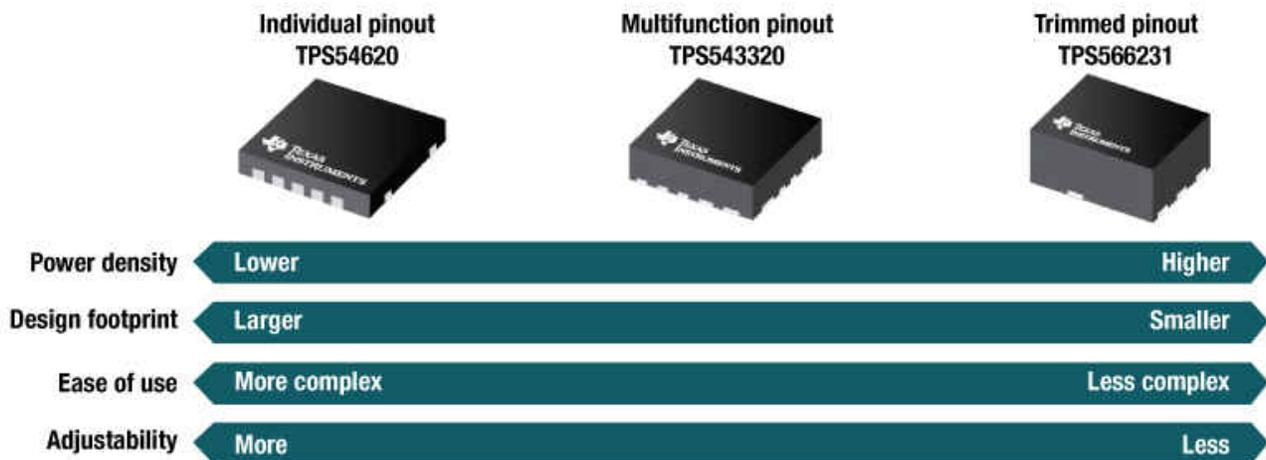

Figure 1. Pinout style vs. design challenges
Even in the absence of extreme circumstances, your preferences toward power density, design footprint, ease of use, and adjustability can help you select an integrated circuit (IC) that’s more optimized for your needs. Figure 1 shows how the pinout you select addresses various design challenges.